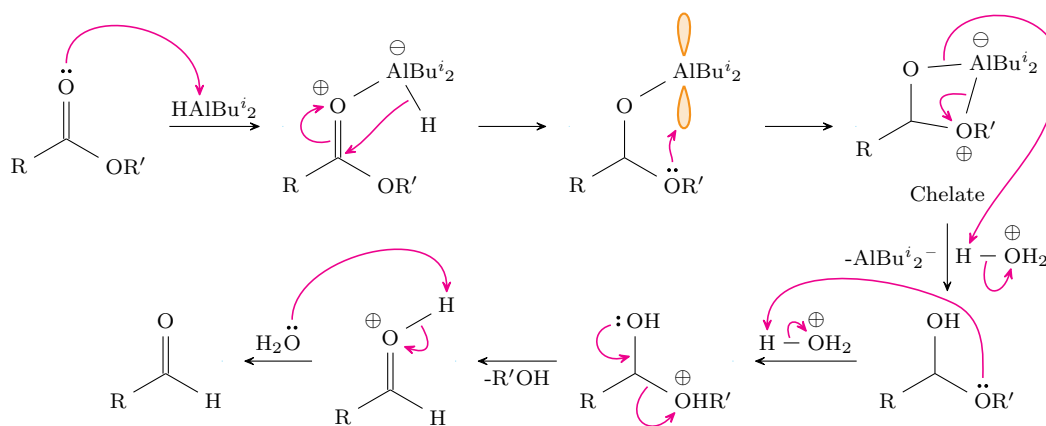

Figure 17.15: Monoreduction of esters mechanism.
- As in Figure 17.15, the heteroatom (nitrogen) attacks the aluminum of DIBAL-H to start. We then undergo the same proton rearrangement to get to a stable species. However, instead of forming a chelate, the acid takes us to the same imine as in Figure 17.18, and then further to the aldehyde (also as in Figure 17.18).